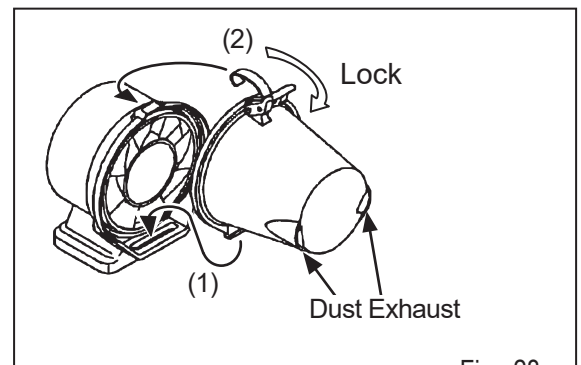

Fig. 28
- After cleaning Dust pot, install it certainly. (Fig.28)